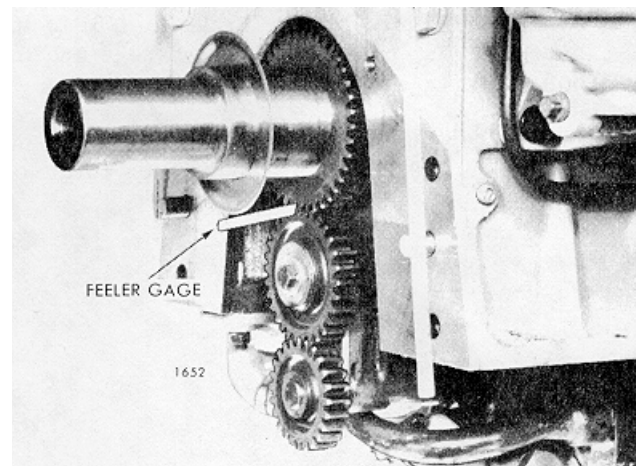

Fig. 10. Measuring the Clearance Between the Teeth of the Oil Pump Driven Gears
1. Hold the pump assembly against the main bearing caps so the idler gear (56) meshes with the driving gear on the crankshaft.
2. Insert the four bolts (55) with lock washers through the mounting feet of the pump and into the bearing caps (39). Align the pump so that the teeth of crankshaft gear and the idler gear are parallel; then tighten the bolts to 35-39 lb-ft cast iron cylinder block and check clearance between gear teeth with a feeler gage. Proper clearance between crankshaft gear and idler gear is .005" minimum, .012" maximum (Fig. 10).